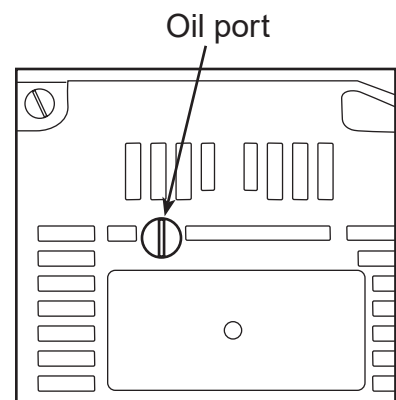

Figure 3
- Oil the recoil spring by spraying lightweight oil into the port (Figure 3).